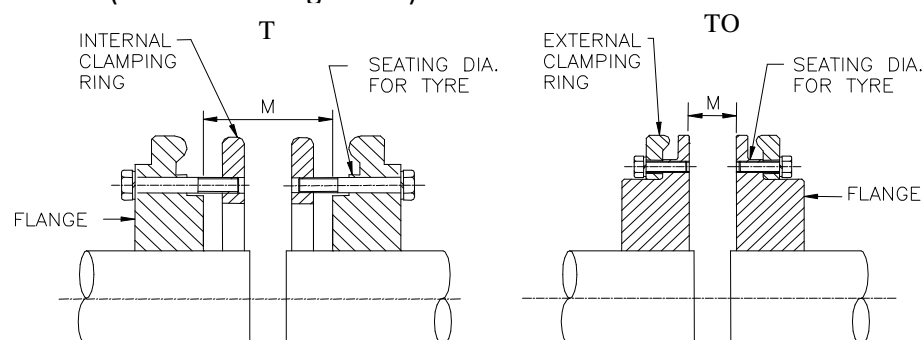

Fig.5
- Bring both the hubs closer to maintain gap 'M'(Table 2) as shown in fig.5